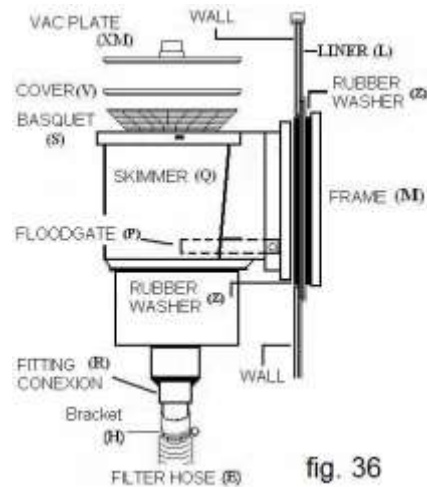

fig. 36
Place the double rubber washer (Z) on the steel wall. The steel wall and liner must go inside the grooves of the washer. Next, install the skimmer frame with the screws. Make sure that all the holes are lined up (washer, hole and skimmer). Fix the holes with the screws one after the other until a perfect match is made, but do not tighten them up too much. Start fastening and finally tighten the screws firmly following the same order, fig. 36.